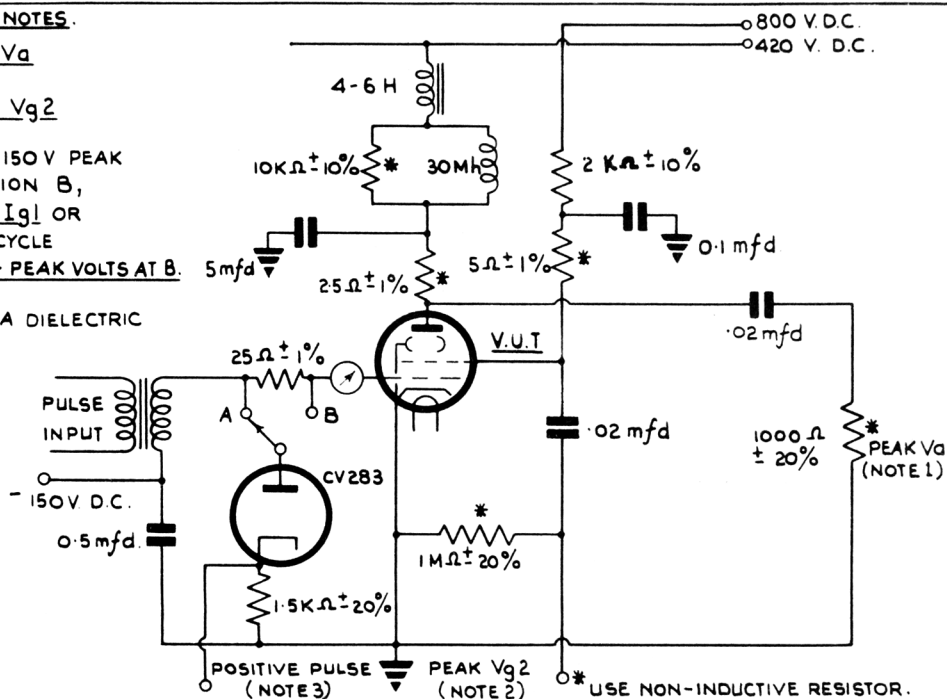

FIG.2. LOW ANODE VOLTAGE PEAK CURRENTS.
- After a minimum pre-heat time of 30 secs. with heater volts only, the valve shall be subjected to the following pulse conditions in the circuit shown on page 5, Fig.2.